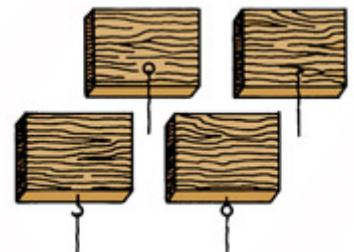

Figure 10- Be sure the suspension wires are securely fastened.
- g) Be sure the suspension wires are securely fastened. Apply them to the ceiling with screw eyes, screw hooks, nails, or drilling (Fig. 10).